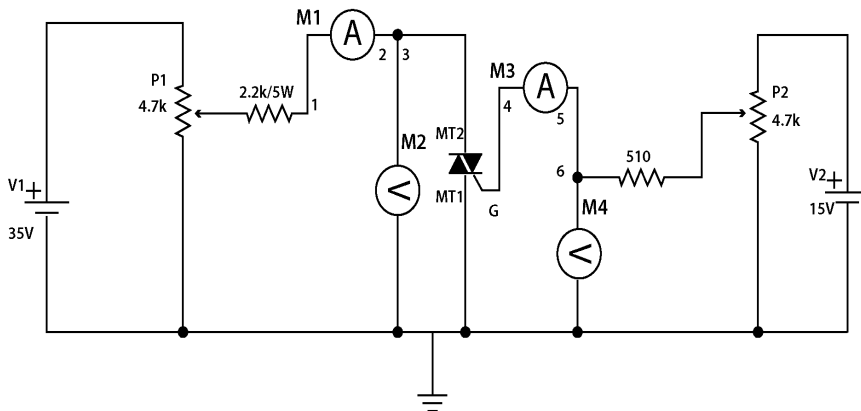

Figure 7
1. Connect the circuit, as shown in Figure 7, using patch cords.